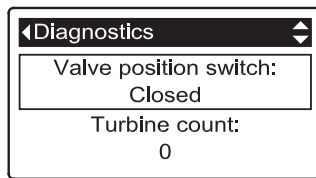

FIG. 159
2. Press the DOWN (▼) button to scroll through the list until **Valve position switch** is displayed (See Figure 159).